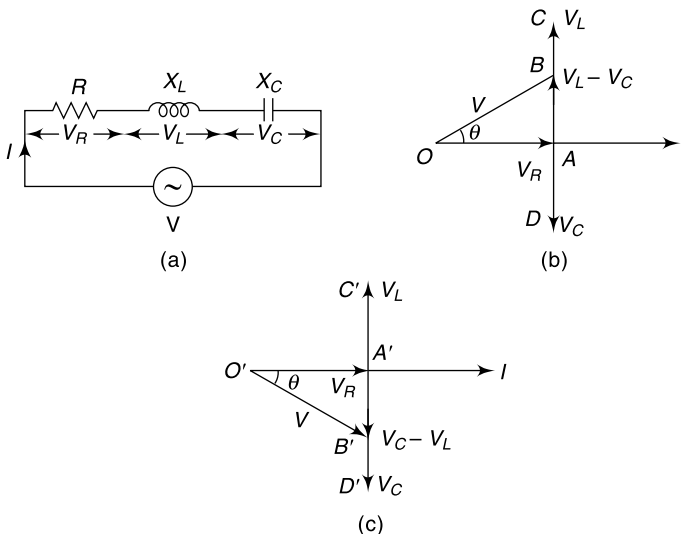

Fig. 5.20 (a) AC through RLC series circuit. (b) Voltage triangle for lagging p.f. (c) Voltage triangle for leading p.f.
Consider a simple series ac circuit containing a resistor of resistance R ohms, an inductor of inductance L henries and a capacitor of capacitance C farad across an ac supply of rms voltage V volts [Fig. 5.20(a)].
In the voltage triangle OAB [Fig. 5.20(b)] OA , AC and AD represents V_R , V_L and V_C respectively. If $|V_L| > |V_C|$ then AB represents the resultant of $(V_L - V_C)$. The vector sum of (V_R) and $(V_L - V_C)$ gives the resultant voltage (V).
In the voltage triangle $O'A'B'$ in Fig. 5.20(c) $|V_C| > |V_L|$. OA' represents V_R , $A'C'$ represents V_L and $A'D'$ represents V_C . The phasor $(V_C - V_L)$ is represented by $A'B'$ and $O'B'$ denotes resultant voltage V .